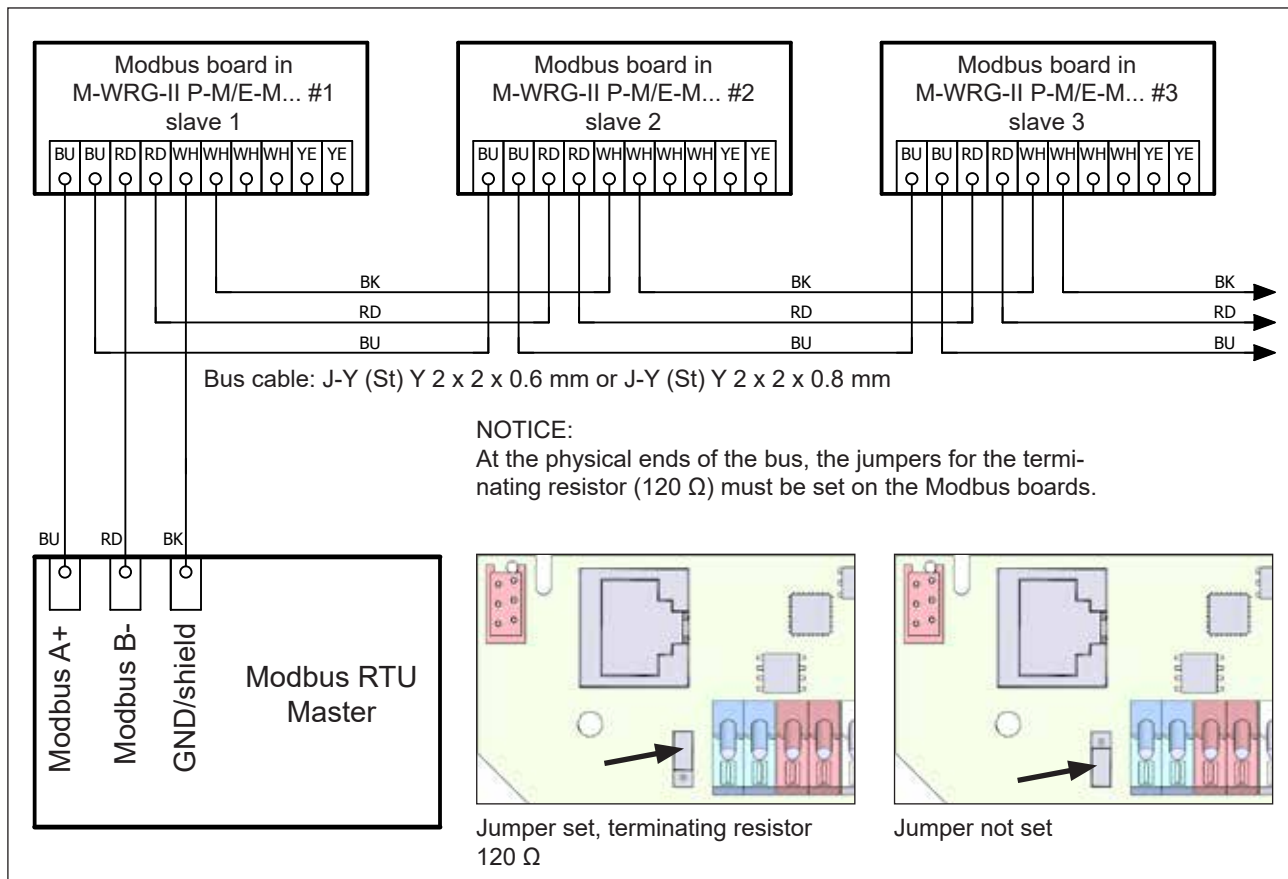

Fig. 24: Modbus wiring diagram
- ▶ Connect up the wiring as shown in Fig. 24 on page 40.